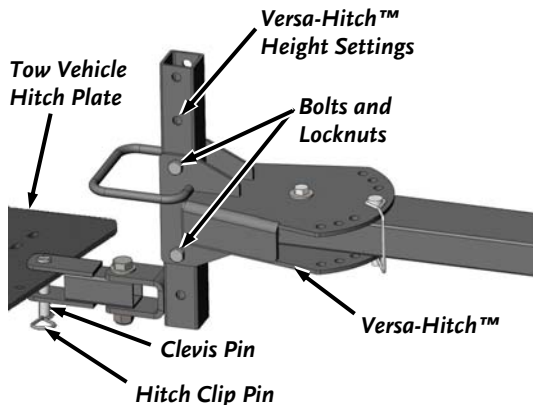

Figure 17
1. Move your Tow Vehicle to a reasonably flat area and set the Parking Brake. Lift the Versa-Hitch™ and position it onto the center of the Tow Vehicle Hitch Plate and secure with the Clevis Pin and Hitch Clip Pin (Figure 17).
Tip: Since you previously leveled the Out-Rigger™ Tow Bar when attaching it to your Tow Vehicle, whenever you change Cutting Height position up or down, just move the Versa-Hitch™ (**Figure 17 on page 16**) up or down to ensure that the Tow Bar is level or slightly lower at the Tow Hitch.